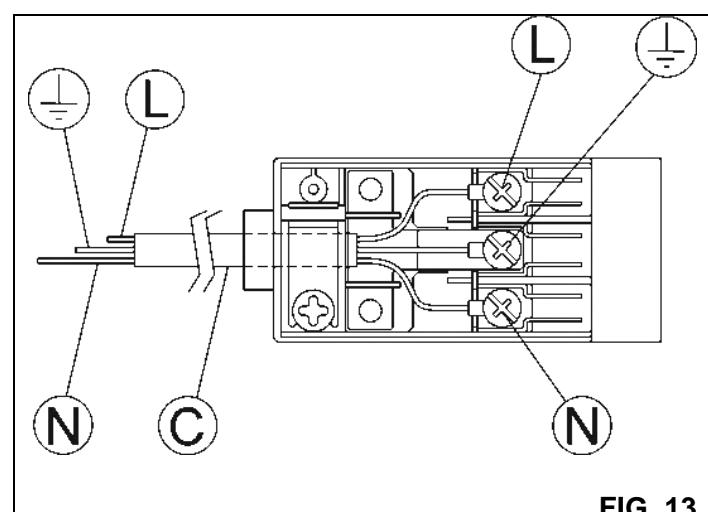

FIG. 13
- If plug connector is not provided for power cable "C" (refer to Fig. 13), install standard plug connector corresponding to the load, which is indicated on the label. Connect the cable according to the diagram in Fig. 13, carefully observe the following conditions: